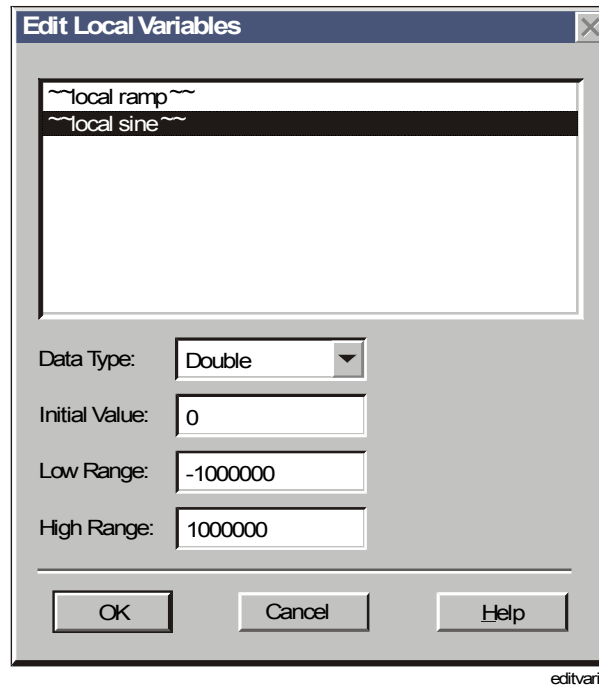

Figure 10-9: Edit Local Variables Dialog Box
1. On the Dynamic menu, select Edit Local Variables. The Edit Local Variables dialog box appears (Figure 10-9).